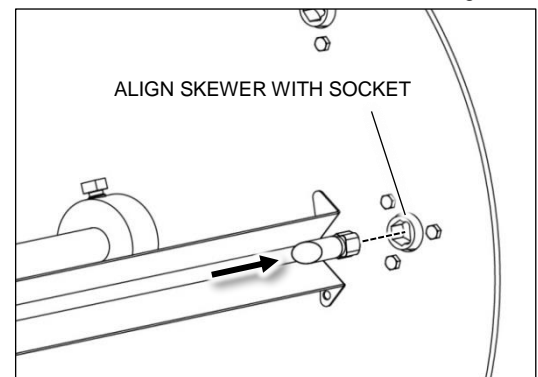

Figure 4-4
2. Align the other end of the skewer with the corresponding socket and push into place (See Figure 4-4).